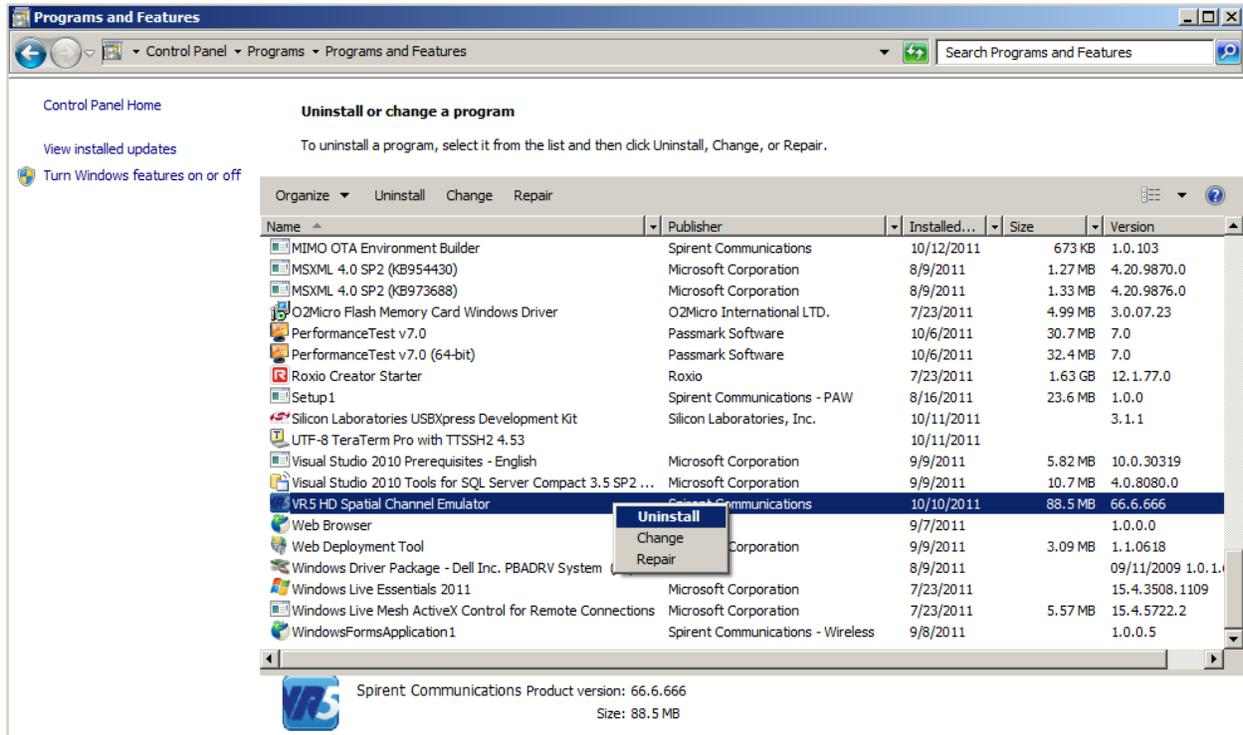

Figure 2-1: Uninstalling the Previous VR5 Software
6. Right-click **VR5 HD Spatial Channel Emulator** and click **Uninstall** from the menu, as shown in Figure 2-1.